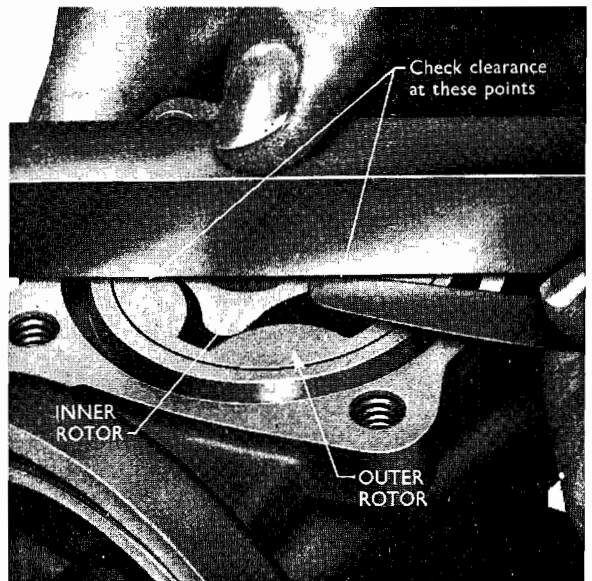

Fig. 3
4. Place a straight edge across the face of the pump body and check the clearance between the face of the rotors and the straight edge (see Fig. 3). This should not exceed 0.005 in. (0.127 mm.). If this clearance is excessive, the face of the pump body can be carefully lapped on a flat surface.